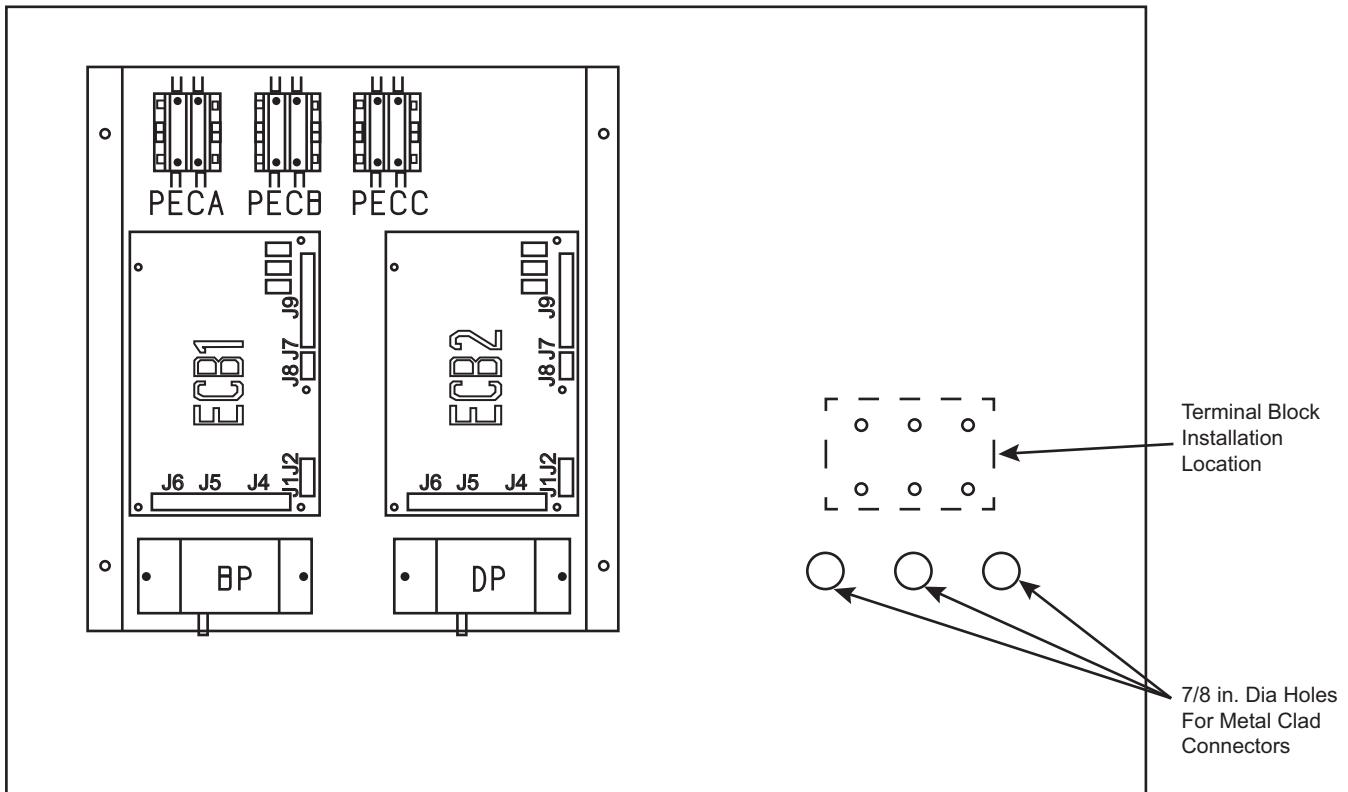

Fig. 3 — Auxiliary Control Box for 48/50A Units
4. Open the unit filter access door. Remove the panel below the filters that cover the auxiliary control panel. See Fig. 2 for auxiliary panel location. **NOTE: The following statement is valid for A-series only.** Mount the auxiliary control panel terminal block in the auxiliary control box; in the location shown in Fig. 3.
5. Route the wires from the 20 ft long power exhaust control and power harnesses through the hole(s) in the auxiliary control panel. See Fig. 3 or 4 for terminal block and harness locations. Secure the metal clad connector with the locknut.
5. Open the unit filter access door. Remove the panel below the filters that cover the auxiliary control panel. **NOTE: The following statement is valid for A-series only.** Mount the auxiliary control panel terminal block in the auxiliary control box, in the location shown in Fig. 3.
6. Route the wires from the 20 ft long power exhaust control and power harnesses harness through the hole(s) in the auxiliary control panel. See Fig. 3 or 4 for terminal block and harness locations. Secure the metal clad connector with the locknut.